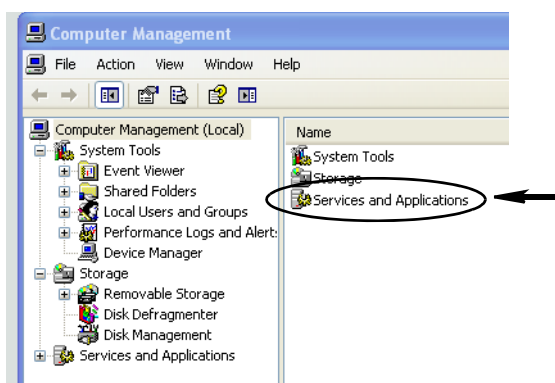

FIG. 35
- b. Double-cliquez sur "Services and Applications" (Services et applications) (FIG. 35).